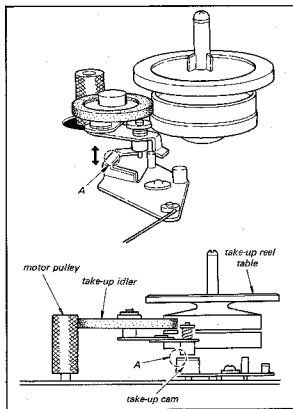

Fig. 4-11. Take-up idler height adjustment
2. If this condition does not exist, place the Function Lever in the FORWARD position. Bend Finger A with a pair of pliers as shown in Fig. 4-11 to obtain the correct Take-Up Idler height.